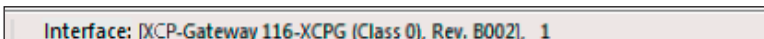

Fig. 6-16: Status bar: "XCP Gateway" interface
- ☞ If an interface is displayed in the status bar (Fig. 6-16), continue with chapter 6.5.3.4 "Creating a new configuration file".